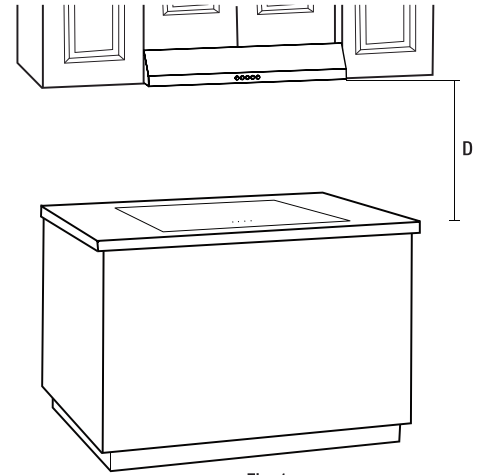

Fig. 1
- If you choose to hang the range hood as on the right (Fig. 1) distance (D) from the cooktop surface, use extra caution as the surface of the range hood may be extremely hot to the touch. For this unit, distance (D) in Fig. 1 is 458 mm–710 mm (18 in–28 in). If you choose an 18 in installation, the temperature of the unit surface will be high if the unit is operated under high power cooking for a certain amount of time.